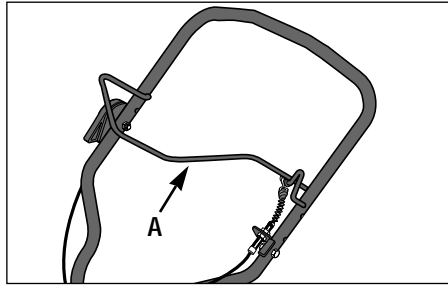

Figure 4-3: Control bail.
1. The Trimmer Head Control Bail (A, Figure 4-3) is used to start and stop trimmer head rotation.
4. Release (disengage) the Trimmer Head Control Bail (A, Figure 4-3).
2. Slowly close the Trimmer Head Control Bail (Figure 4-3) against the handlebars to activate the trimmer head. Use the Engine Throttle Control Lever to adjust the speed of the trimmer head.